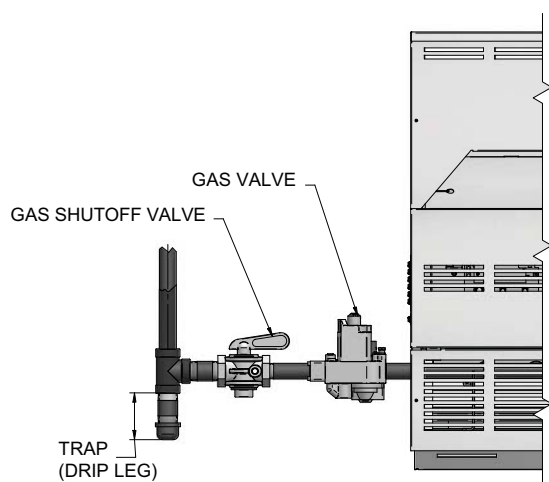

Figure 3-1_Gas Line Connection
3. Installation of a union is suggested for ease of service, see FIG. 3-1 on page 19.
5. A trap (drip leg) **MUST** be provided by the installer in the inlet of the gas connection to the appliance, see FIG. 3-1 on page 19.
All gas connections must be made with pipe joint compound resistant to the action of liquefied petroleum and natural gas. All piping must comply with local codes. Tubing installations must comply with approved standards and practices. Reference FIG. 3-1 for a typical installation.